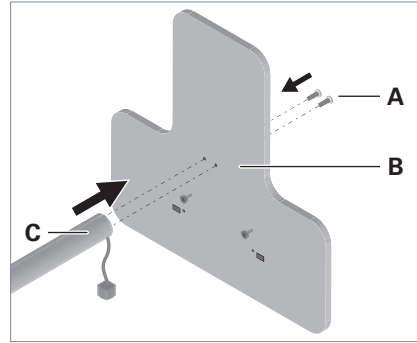

Fig. 1: Mounting the column.
- ▶ Fasten the column **C** to the base of the light **B** using the delivered screws **A**, see Fig. 1.